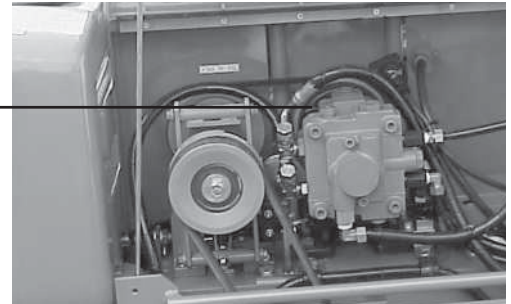

Figure 26 Location of Bypass Valve Bolt
1. If you need to move the roller by pushing it manually once engine is stopped, loosen bolt of bypass valve on oil pump by one rotation counterclockwise. This will cause the hydraulic break to disengage and allow the roller to be moved more easily (Figure 26).